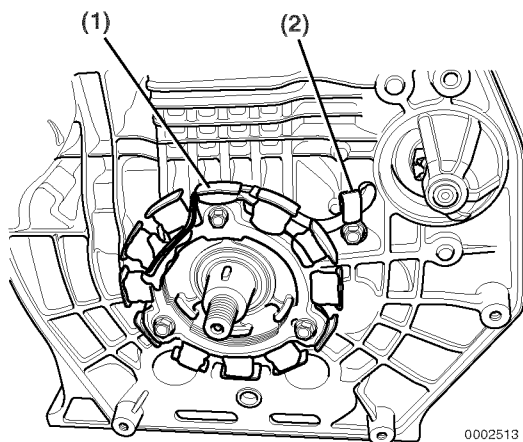

Figure 9-15
14. Remove the stator assembly and lead retainer (Figure 9-15, (1, 2)).